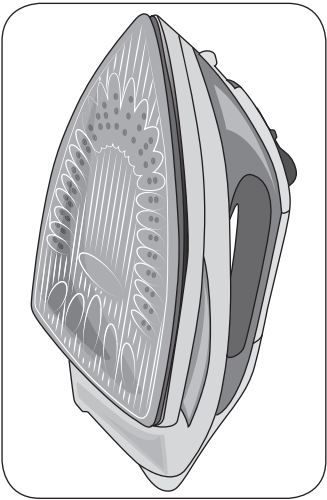

Fig. 7
Rest the iron upright on the iron stand (I) (Fig. 7).